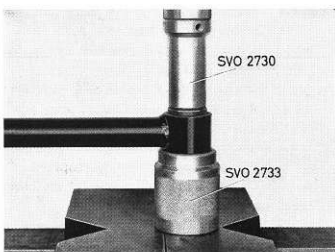
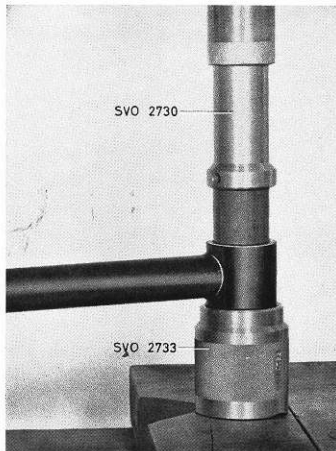

Fig. 7-11. Removing small bush, track bar
Fig. 7-12. Fitting small bush, track bar
4. If necessary, press out the small bushes with 2730 using 2733 as a counterhold, (Fig. 7-11). Pressing in the bushes can be done with the same tools only in this case 2730 is reversed (Fig. 7-12).